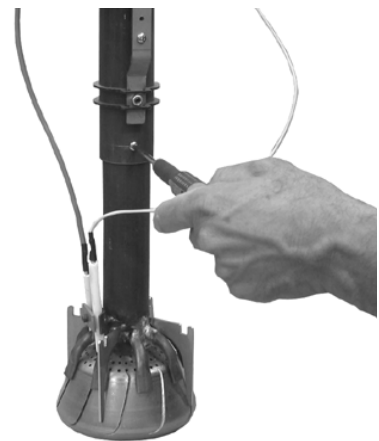

Fig. 15
- 2 Remove the flanged piece **T** by removing the 4 socket head screws **VTF** (Fig. 15).